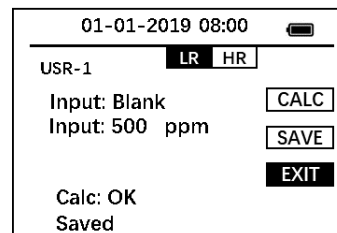

Figure 14.
- (b) With **EXIT** highlighted, press the **OK** key to exit the measurement interface (Figure 14).